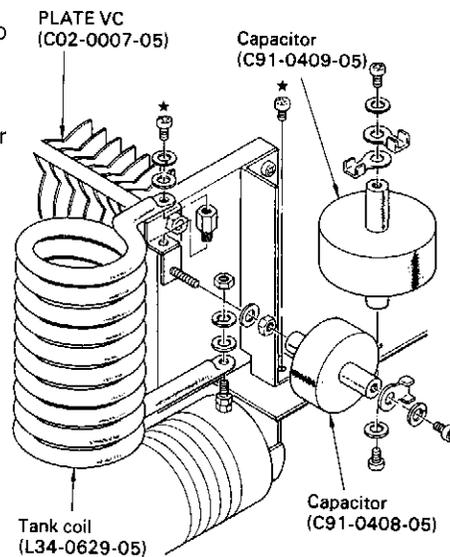

Fig. 12b Output Coupling Capacitor
- 2) Remove screws according to Fig. 12b.